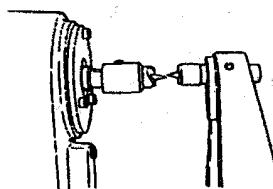

Fig.11
6. Loosen the headstock lock and move the Speed Reducer and headstock toward the tailstock until the tips of the drive center and the cup center almost touch, shown in Fig.11.